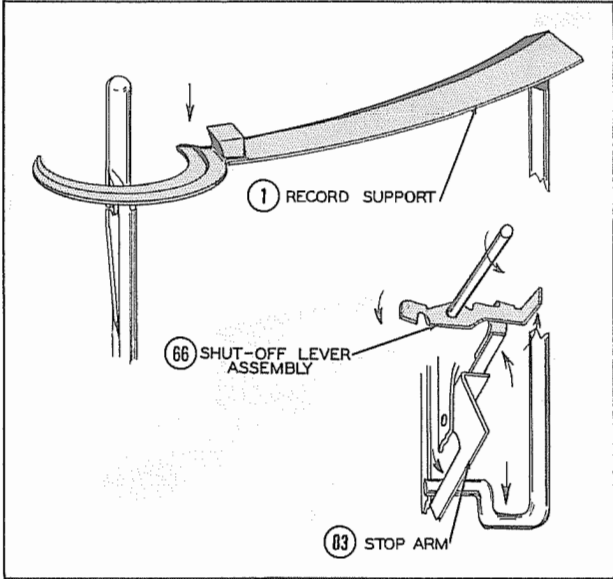

Figure 6
As the last record of the stack drops to the turntable the record support (1) drops below the shelf on the spindle assembly (9) and the lower end of record support shaft (82) contacts the stop arm on the record support guide assembly (83). This stop arm in turn applies force to shut-off lever (66). At this moment the cycling slide (78) is in the outermost position (away from centerpost) and the end of the shut-off lever (66) is forced against the escape lever (78A) which prevents it from lowering further. (See Figure 6)